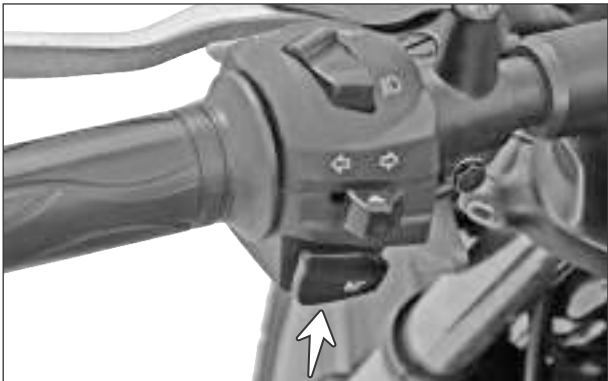

Fig. 5.24
- ▮ The horn switch is located on the switch assembly handle LH. (Fig. 5.24)